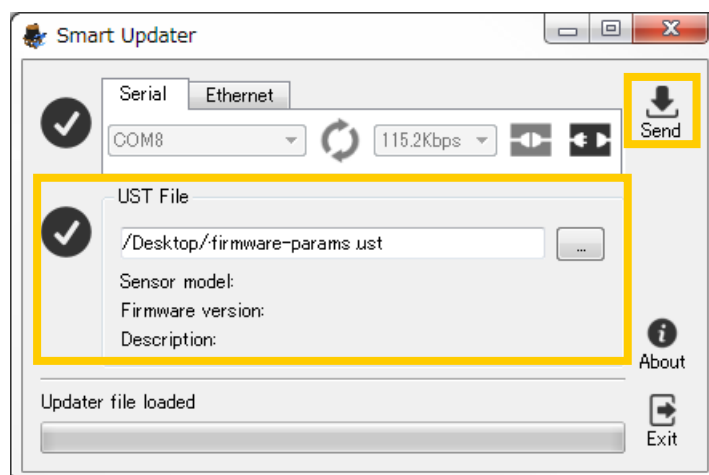

Fig B.2.3-4 After selecting update file
2. Click on [...] to access the Open dialogue and select the update file of the firmware (file extension: \*.ust). When the update file of the firmware is opened, [Send] button on the top right will be activated; of the window. “Smart Updater” will change as illustrated in Fig. B.2.3-4 and the icon on the left side that indicates the processing status will change from ❌ to ✅.